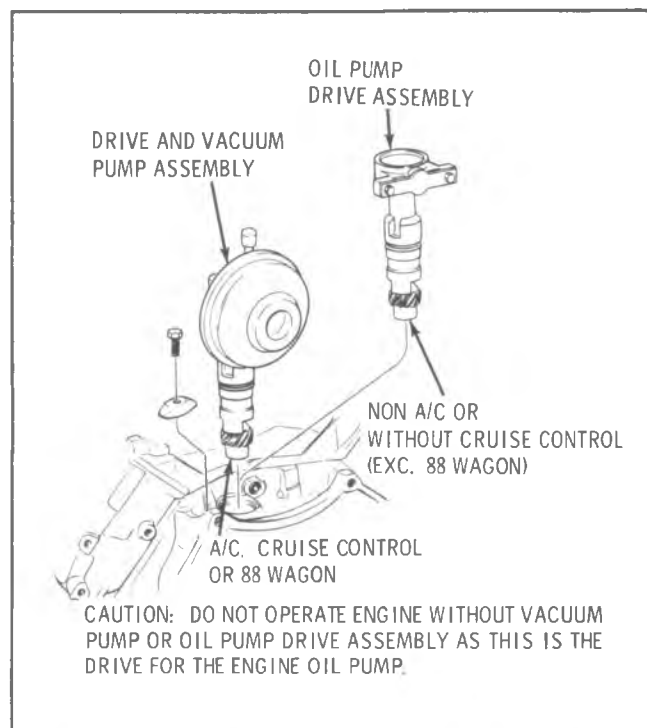

Fig. E-27—Drive and Vacuum Pump/Oil Pump Drive
14. Install vacuum pump and vacuum lines (with A/C). Install oil pump drive assembly (non A/C) Fig. E-27.